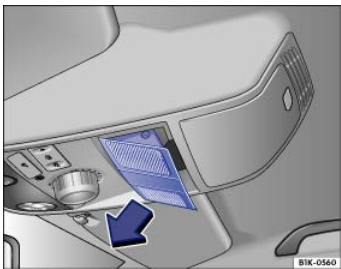

Fig. 173 In headliner: Removing cover.
- Remove the cover in direction of the arrow ⇒ Fig. 173.